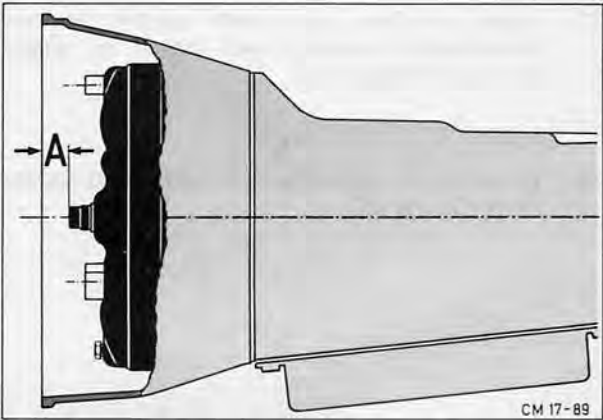

Fig. 28. Converter installation dimension 'A'
- (b) With torque converter hub fully engaged in oil pump drive gear distance 'A' between converter casing flange and centring pivot should be **at least 10 mm (0,4 in)**, Fig. 28. **Strict compliance with converter installation instruction is essential to prevent damage to transmission and fly-wheel assemblies.**